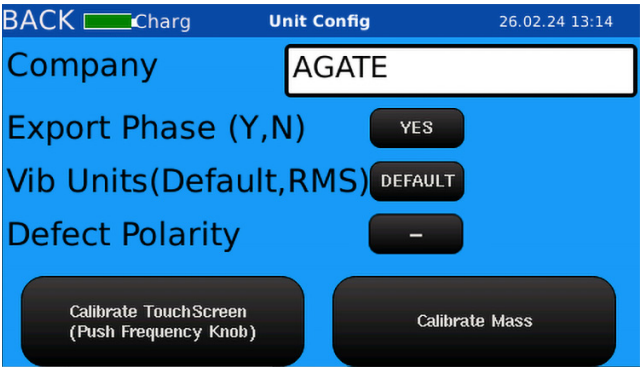

Figure 69. Select the - button
- 1. On the Unit Configuration screen, select the **- button** next to Defect Polarity to change the signal polarity to negative (*Figure 69*).